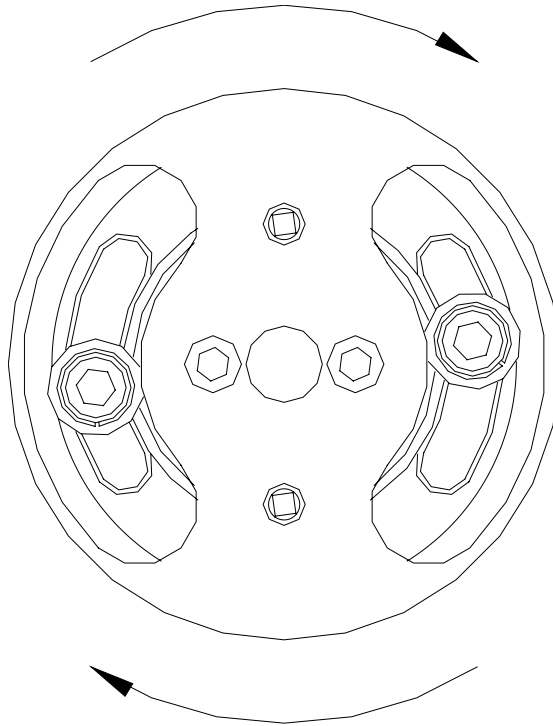

Figure 3-9: Stator Direction of Rotation
13. Rotate the stator as shown in Figure 3-9. The DVM should increase in a positive direction. If the DVM reading does not increase in a positive direction, loosen the Microsyn field coil mounting screws and rotate the field coil to obtain the next possible $0 \pm .2$ VDC position. Tighten the screws.
14. Rotate the stator once again as shown in Figure 3-9. The DVM should increase in a positive direction.